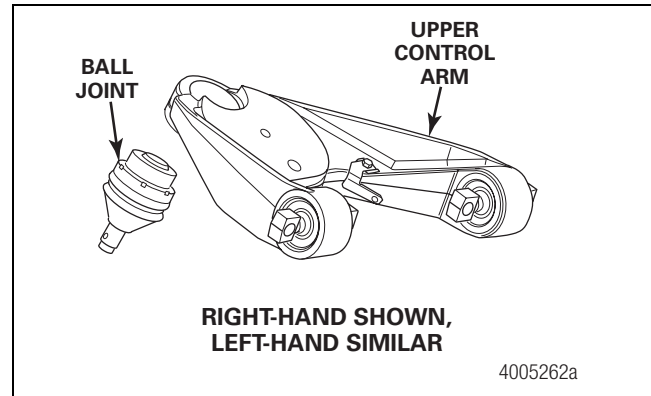

Figure 5.11
1. Place the upper control arm into a suitable holding fixture with the ball joint stud facing UP. Figure 5.11.